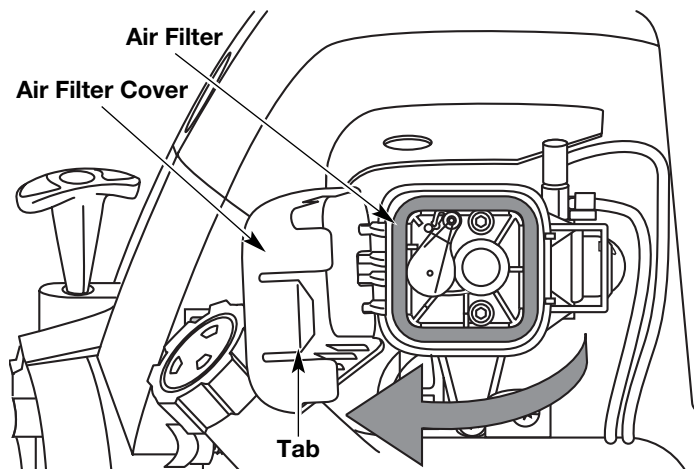

Fig. 61
1. Open the air filter cover. Push the tab on the right side of the cover inward. Then pull the air filter cover out and to the left (Fig. 61).
2. Remove the air filter (Fig. 61).